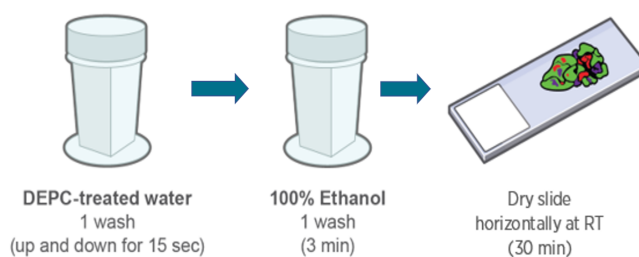

Figure 5: Water and Ethanol Wash
7. **Immediately transfer all slides to staining jar containing fresh DEPC-treated water.** Move slides up and down for 15 seconds to wash slides Figure 5.